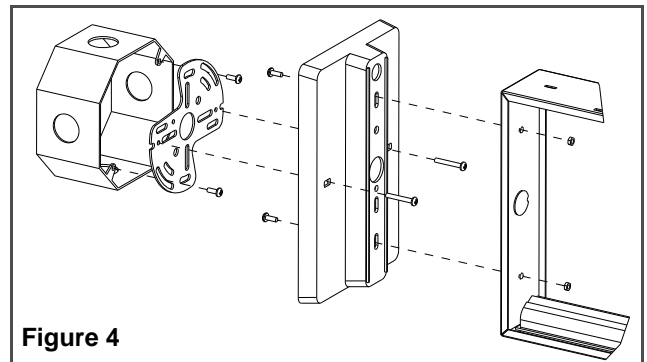

Figure 4
- b. Fasten the canopy to the exit using #8-32 x 3/8" screws and kep nuts provided (see Figure 4).